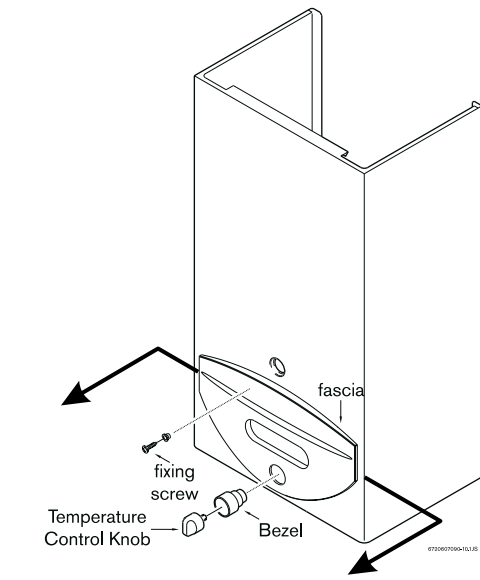

Fig. 17 - Access for servicing
- Lift the casing clear. (See fig. 17).